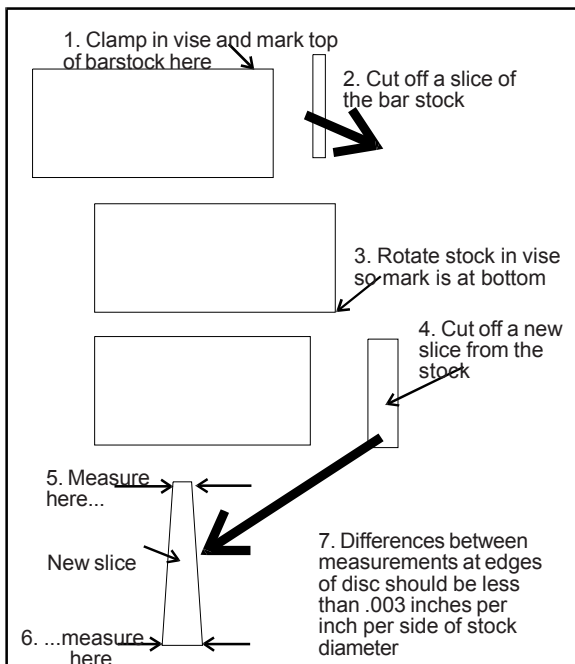

Figure 14: Cutting a test disc
1. With the bar stock securely clamped in the vise, make a cut through the bar stock. (See figure 14.)